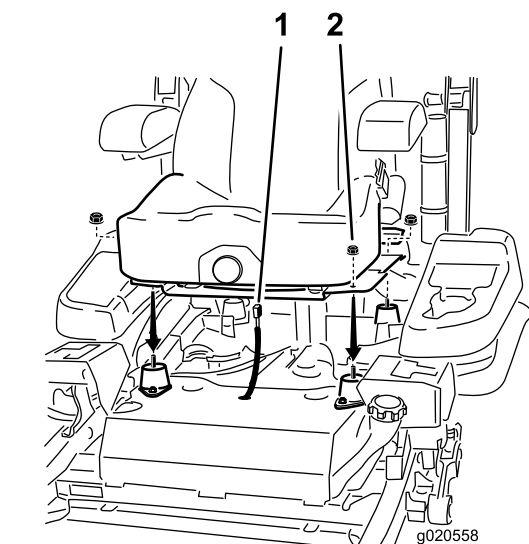

Figure 13
5. Plug the harness connector into the seat switch located under the seat towards the front (Figure 13).
10. Install the seat to the machine frame with the previously removed nuts (Figure 13).